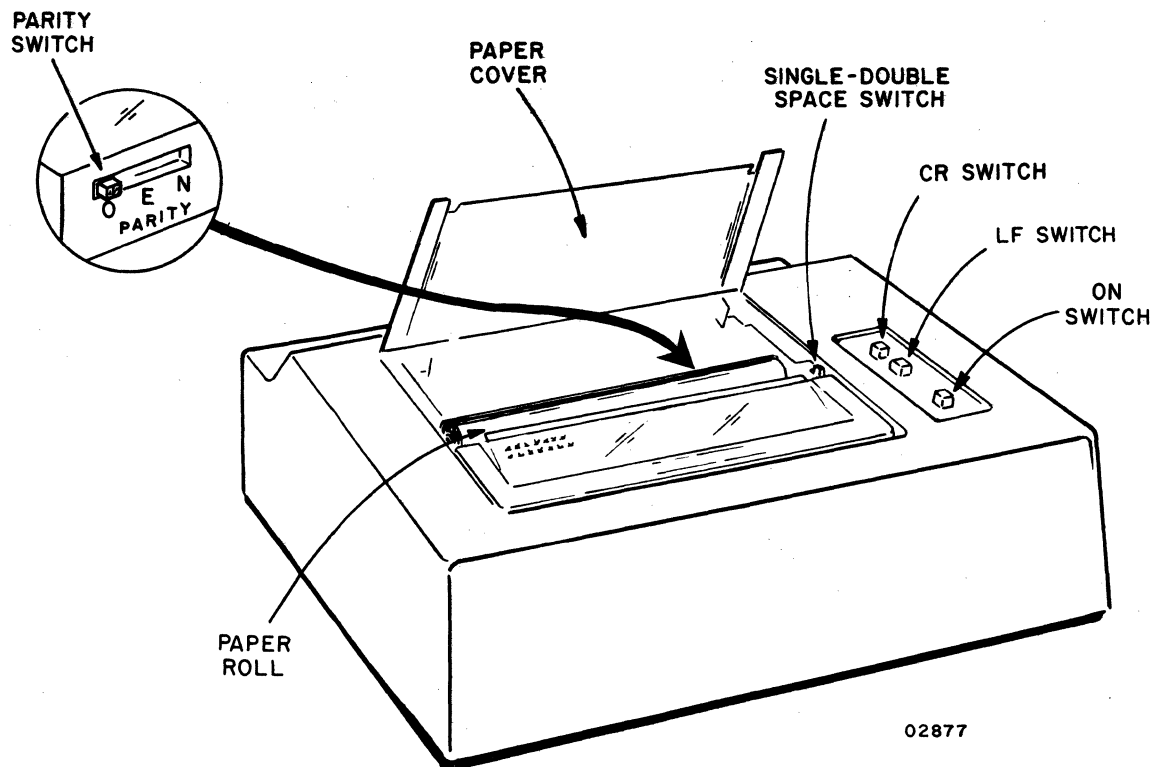

Figure 3-11.1. Nonimpact Printer Controls
- 2) Before applying power to printer, lift top cover to check paper supply (procedure NIP1). Also make sure that the PARITY switch (figure 3-11.1) setting has not inadvertently been changed from its installation setting.